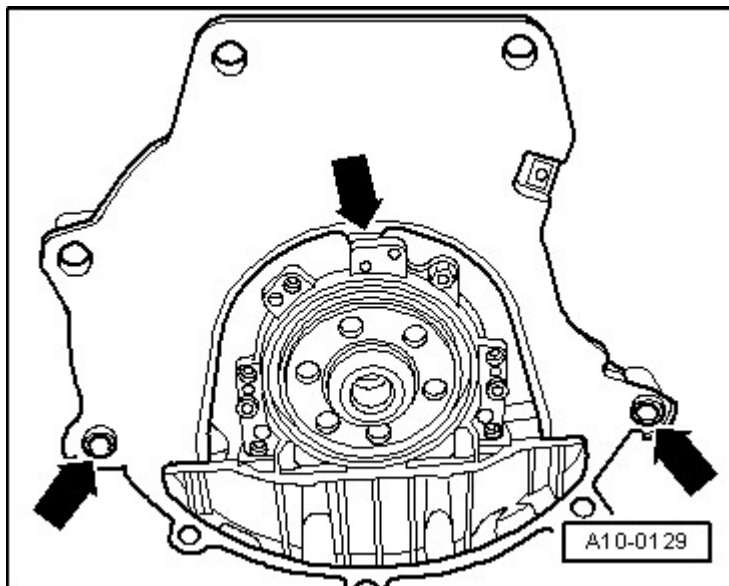

Fig. 9: Identifying Intermediate Plate Alignment Bushings
- Is hooked in at sealing flange, refer to **Fig. 9**